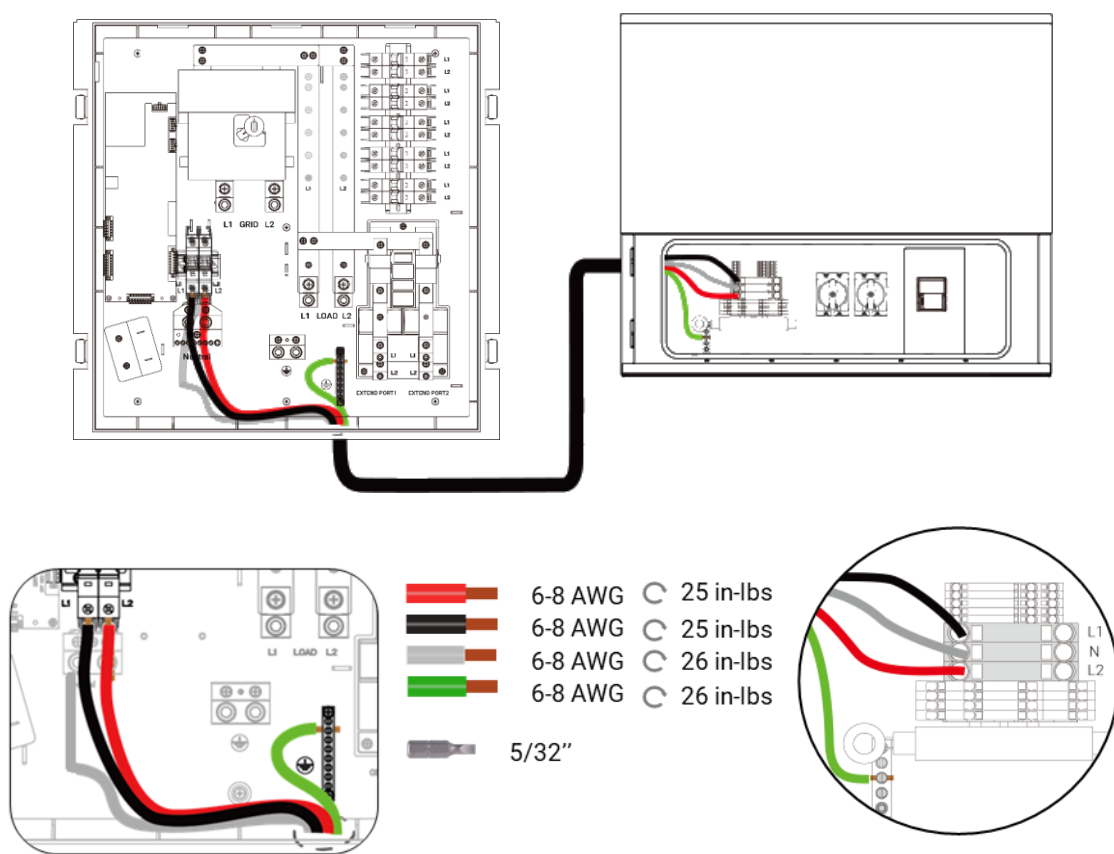

Figure 2. Smart Gateway to Hybrid AC Wiring
(Ref.Figure 2)
- Refer to figure 2 for wiring the AC output L1, N, L2, and ground cable between the Hybrid Inverterand Smart Gateway breaker.